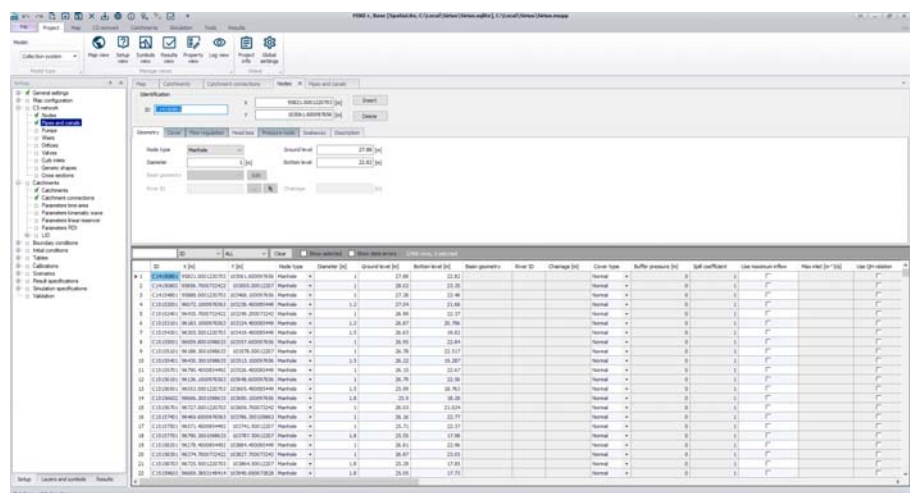

Figure 2.5 MIKE+ GUI with all editors "docked"
- "Docked" editors are displayed one-at-a-time. Any editor can be brought to the front by clicking on its tab. This is shown in Figure 2.5 below.
Figure 2.5 shows the MIKE+ GUI with all editors "docked". In this case only the active editor is visible.